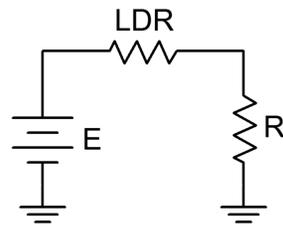

Figure 1
4. Construct the circuit of Figure 1 using  $E=10$  volts and  $R=10\text{ k}\Omega$ . Using the voltage divider rule, determine the expected value for the voltage across  $R$  under normal lighting and then measure the voltage. Record these values in Table 2.